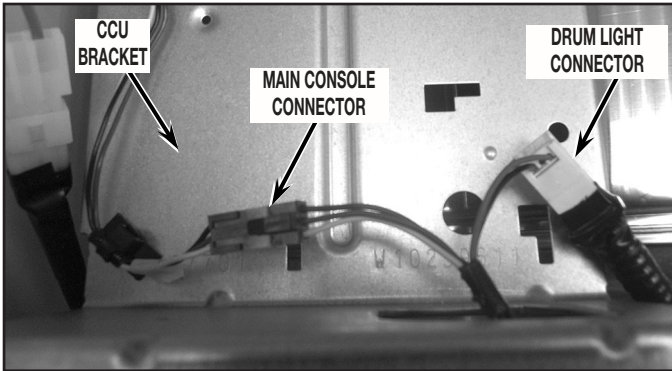

FIGURE 4
4. Disconnect drum light connector and main console connector as shown in *Figure 4*. Lift up on console and tilt assembly forward to remove console.